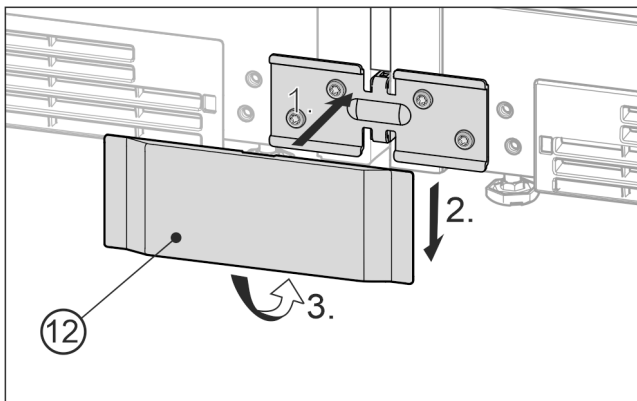

Fig. 26 Example illustration
- ▶ Place the bottom cover Fig. 26 (12) onto the bracket from the front Fig. 26 (1), slide it down Fig. 26 (2) and snap it in at the bottom Fig. 26 (3).